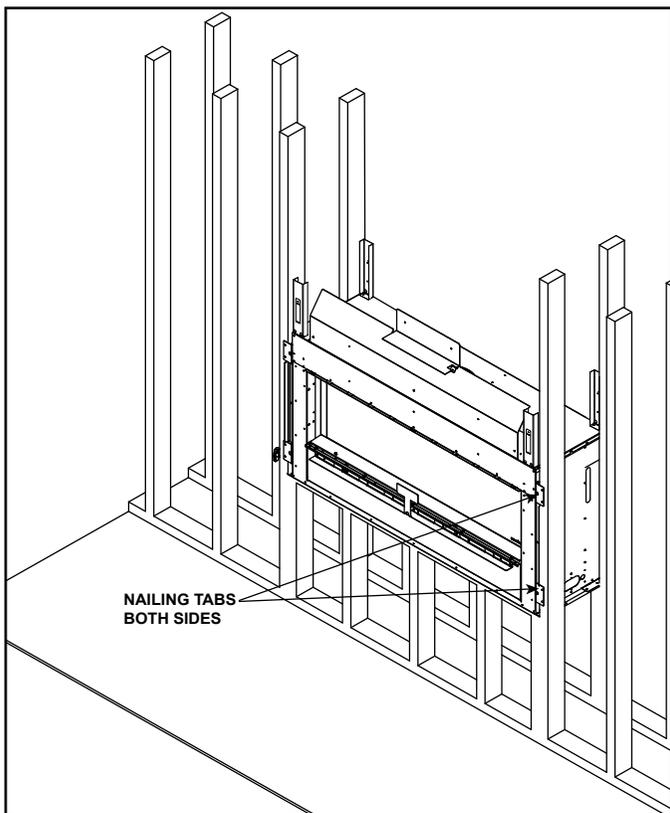

Figure 6.5 Nailing Tab Locations
- Keep nailing tabs flush with the framing. See Figure 6.5.